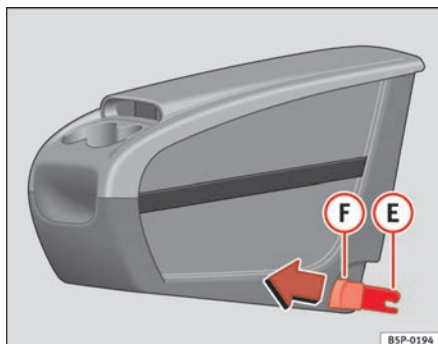
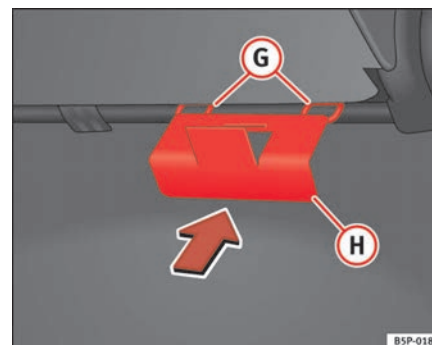

Fig. 111 Mobile stowage compartment Installation
Fig. 112 Mobile stowage compartment mounting plate
- Fit the mobile stowage compartment mounting plate ⑧ ⇒ fig. 112 from the inside of the vehicle, through the rear section of the seat. It should be fitted between the back rest and the seat, in the central seat area.
- Set both mounting pieces together (E) ⇒ page 141, fig. 111, with both mounting rings (G) ⇒ page 141, fig. 112 and press hard until both the clips completely connect with the rings.
- Pull each of the buttons ⇒ page 141, fig. 111 (F) on the clips (red buttons) forwards, until they snap out of place.